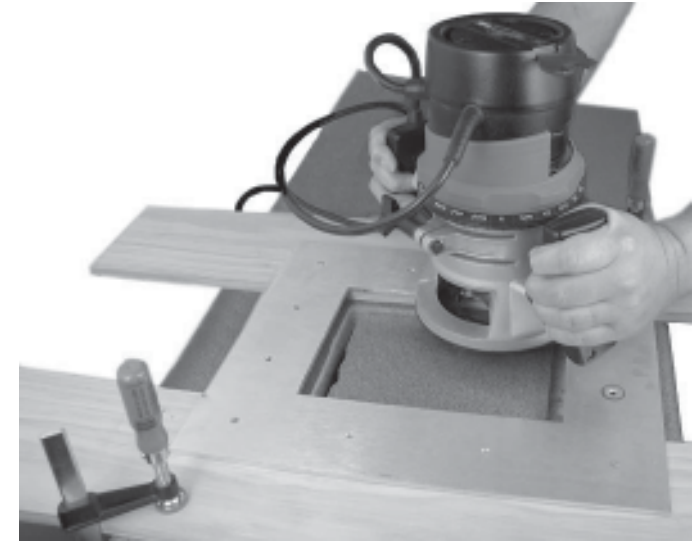

Figure 2-2 — Cutting the opening with a router
3. Once the template assembly is positioned properly, secure the assembly to the table with C-clamps (figure 2-2).
4. Using a router with a 5/8" (or 16 mm) outside diameter guide bushing and a 1/2" (or 12 mm or 12.7 mm) diameter straight router bit, carefully cut the opening in the table surface (figure 2-2).